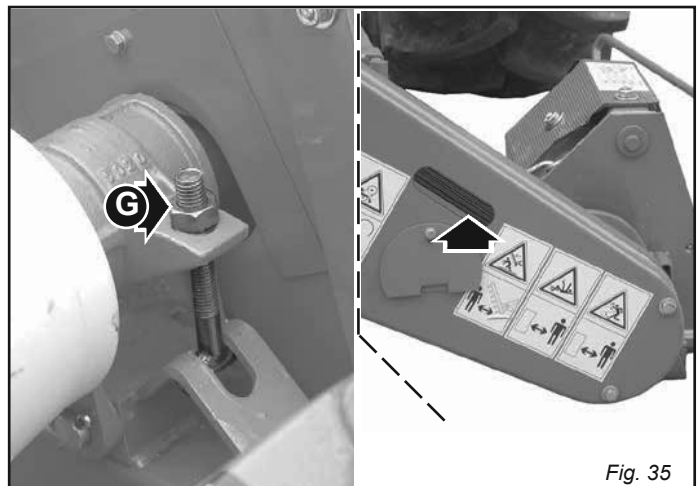

Fig. 35
- Adjust belt tension periodically by adjusting nut (G, Fig. 35). Check tension via the viewing panel on the belt guard. Belt slack must not exceed 2 cm. It is essential to close the inspection hatch with the relative lid after the belts have been examined.